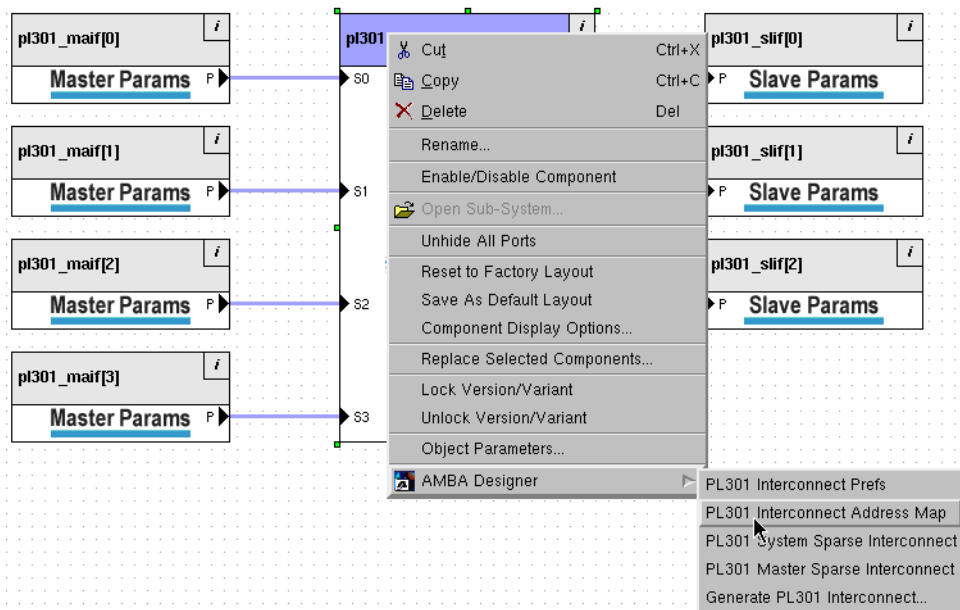

Figure 4-10 Accessing the address map
2. Select **AMBA Designer** → **PL301 Interconnect Address Map** from the context menu, as Figure 4-10 shows.